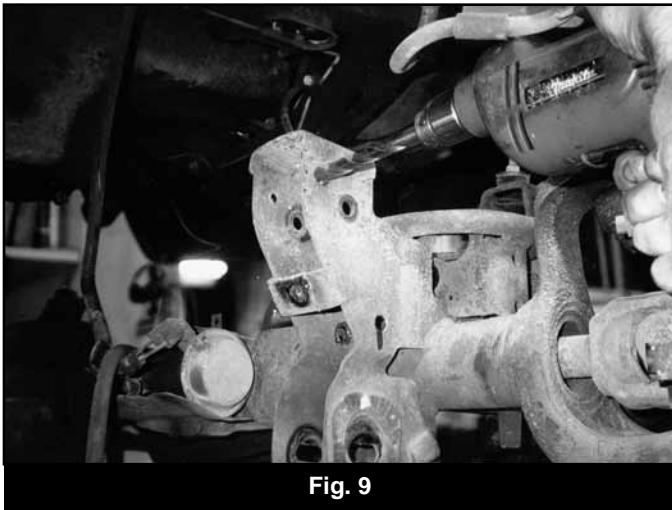

Fig. 9
27. Prior to installing the upper link relocation brackets, check the holes on each side of the upper link axle mounts to ensure that a 12mm bolt fits through them. If not, drill out the holes to 1/2". (Fig. 9 & 10)